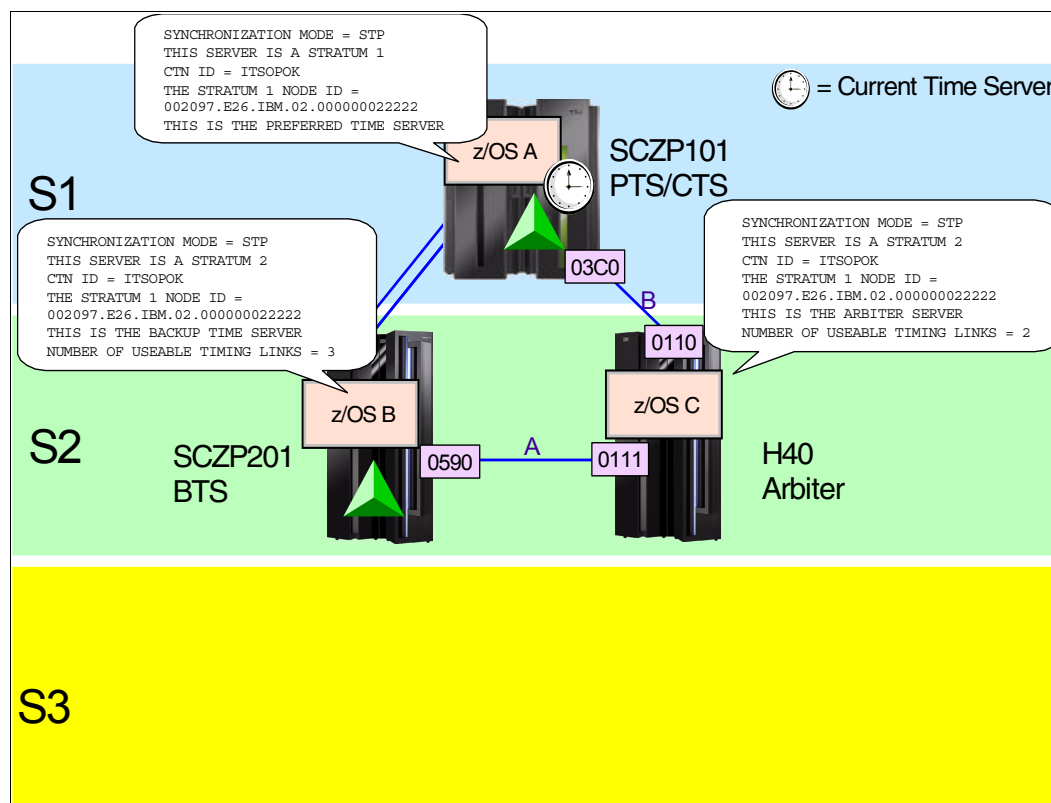

Figure 7-5 Example configuration - SCZP101, SCZP201, and H40 servers
In the example configuration displayed in Figure 7-5, the PCHIDs are shown in such a way so that the reader can relate the STP Status information shown in this section to the CTN topology. In this example, the coupling link between the SCZP101 server and the H40 server is a potential last timing link. The coupling link between the SCZP201 server and the H40 server is also a potential last timing link.
When a last timing link condition is detected, any attempt to remove the channel path from a z/OS image at either end of the link using the z/OS command CONFIG CHP(xx),OFF is rejected. In the example shown in Figure 7-5, an attempt to configure off from z/OS image z/OS C on H40 results in message IEE148I:
To demonstrate the last timing link safeguards, the following example steps through the process of configuring off a CHPID mapped on PCHID 0110 of H40. Figure 7-5 on page 249 shows the configuration.
- In the configuration shown in Figure 7-5 on page 249, on H40, the DISPLAY ETR command output on the z/OS image identifies no single point of failure:
Notice the difference with the configuration in Figure 7-5 on page 249. Prior to the reconfiguration, the z/OS image running on SCZP201 recognized three usable timing links (PCHIDs) because at the time, H40 had connectivity to the Current Time Server and was a possible source of STP timing messages.